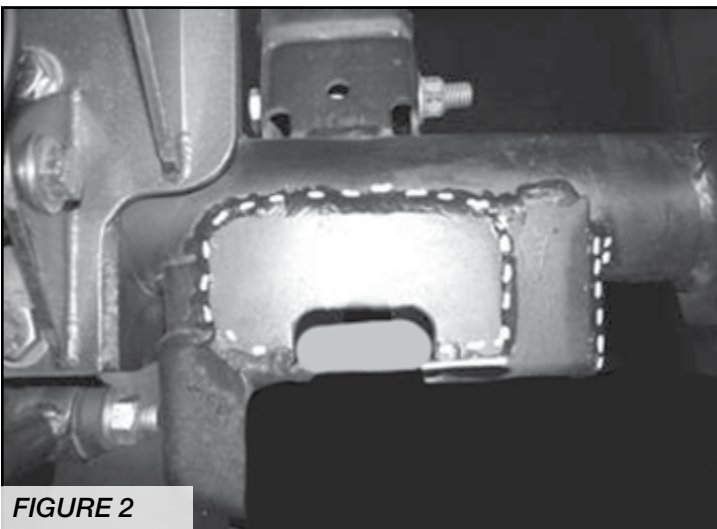

FIGURE 2
4. Locate FT50343 gusset, position it onto the top of the axle and trac bar mount. Weld the gusset as shown in the photo. **SEE FIGURE 2**